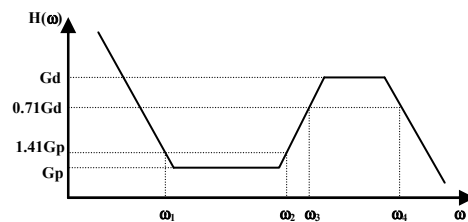

Figure 9 Transfer Function of the Compensation Network
The transfer function of the compensation network, defined as $H(\omega) = VDR(\omega)/TMO(\omega)$, is shown in figure 9.
- $C_D \cdot R_I$ determines the corner frequency, $\omega_2 = 1 / (C_D \cdot R_I)$, where the differential component starts picking up (see Figure 9), as the frequency goes up.